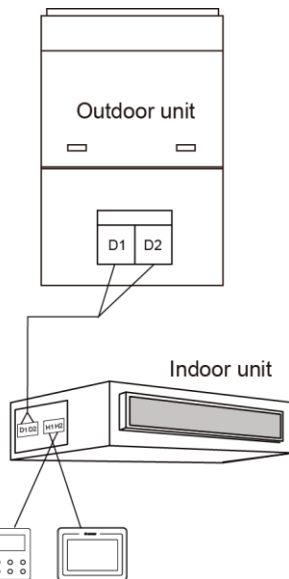
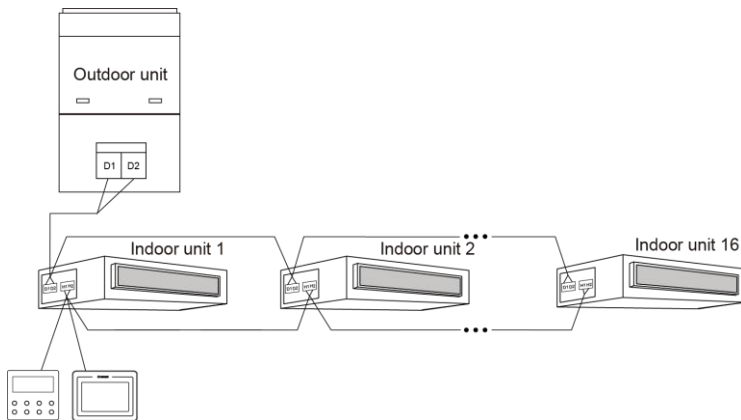

Fig 1.5 Two wires controllers control one indoor unit
Fig 1.7 Two wired controllers control more indoor units simultaneously
(5). The wiring between wired controller and indoor unit must be according the wiring method of fig 1.4-1.7. In the wiring method of fig 1.5 and fig 1.7, only one master wired controller (address 1) and one slave wired controller (address 2) can be